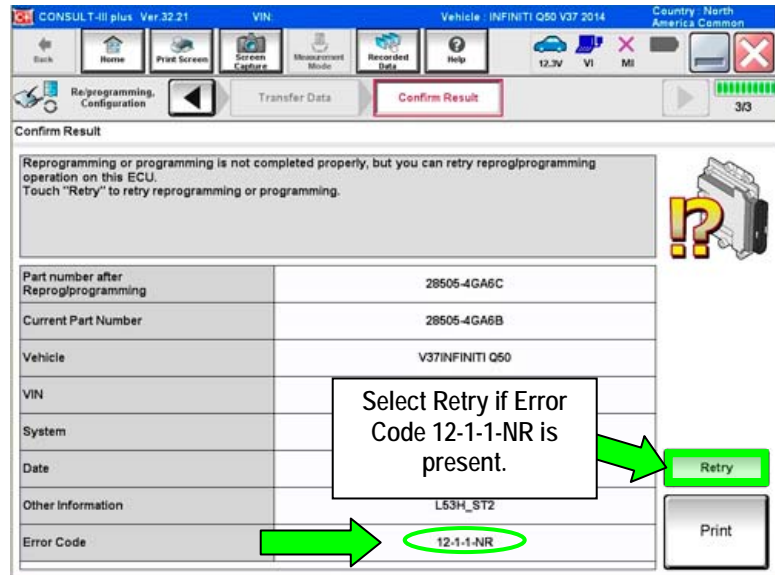

Figure 16
- If the progress bar freezes at 90% of a complete transfer to the plus VI and error code "12-1-1NR" is displayed (see Figure 16 on the next page), **turn the ignition OFF, then ON**, and then refer to Control Unit Recovery on the next page.
If reprogramming does not complete and the “!?” icon displays as shown in Figure 16: